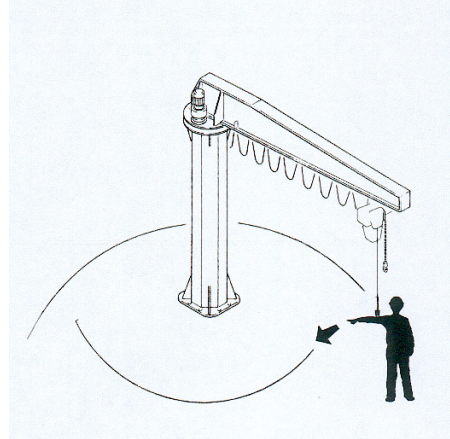

fig.12
- Check the suitability of the manoeuvre spaces (rotation) available for the jib crane, especially if it operates in areas where there are other cranes or other manufacturing machines (fig.12);